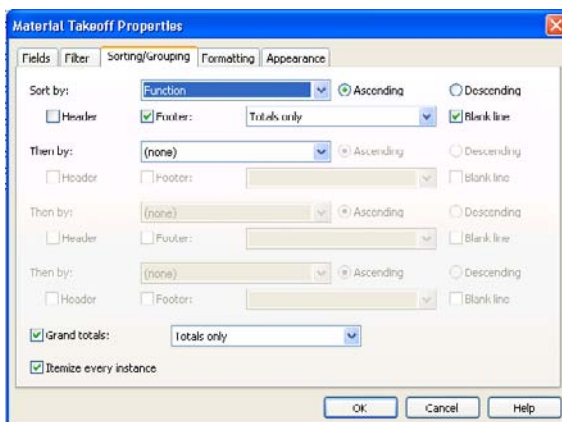

Figure 12.15
5. On the Sorting/Grouping tab (Figure 12.15), set the options as follows: